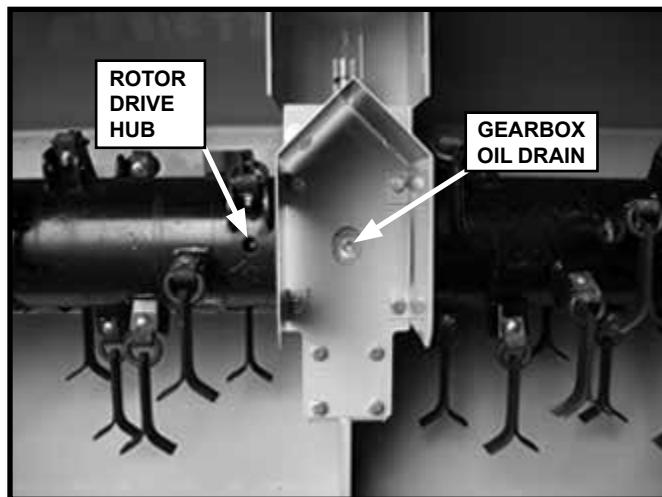

Figure 34. Rotor Drive Hub Lubrication Points & Gearbox Oil Drain Location
1. Lubricate rotor drive hubs next to the couplers on underside of unit (2 locations). See Figure 34.
1. 1. Change gearbox oil. Refill with SAE 85W90 gear oil. See Figure 34.